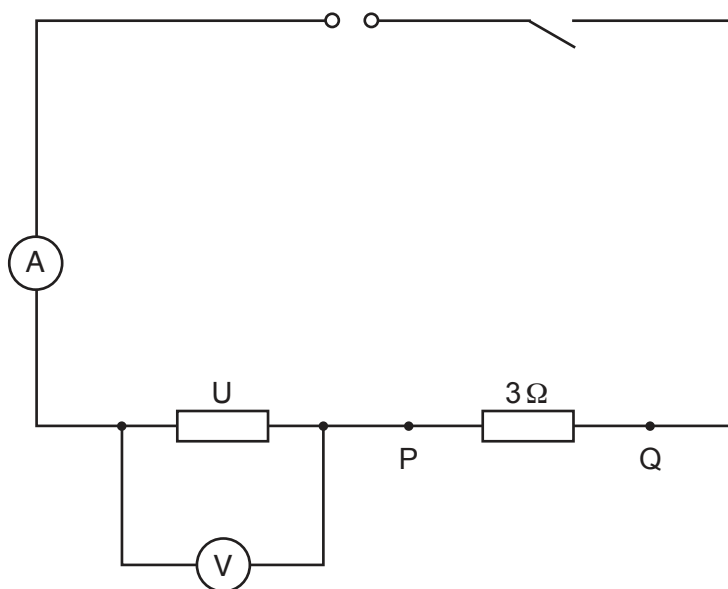

Fig. 2.1
- (v) Sufficient connecting leads to set up the circuit shown in Fig. 2.1 and four extra leads.
1. The circuit is to be set up for candidates as shown in Fig. 2.1.
3. The terminals for the $3\ \Omega$ resistor connected in Fig. 2.1 must be labelled 'P' and 'Q', as shown.
Connect the circuit as shown in Fig. 2.1 and check that the circuit is working.